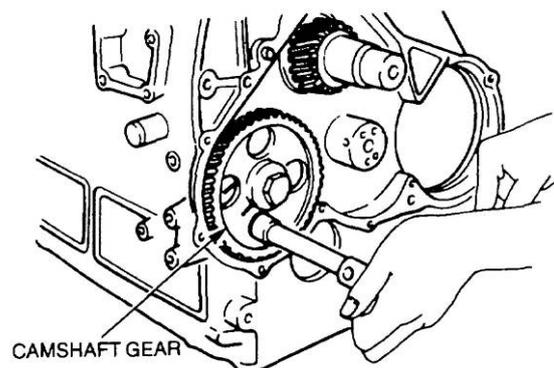

Figure 42 Installing the Camshaft
- m. Carefully install the camshaft ensuring that the lobes are not dragged across the bearings. Install and torque the thrust plate retaining bolts (Figure 42) to 21 to 30 N.m (15 to 22 lbf.ft).